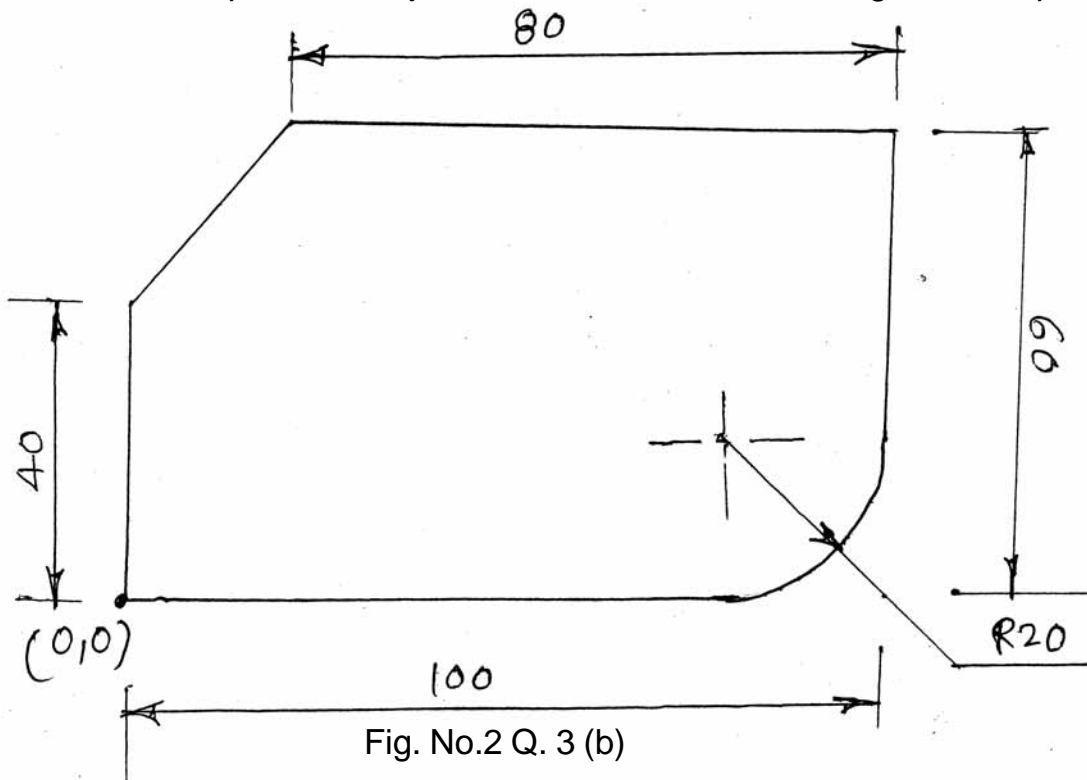

Fig. No.2 Q. 3 (b)
- b) Prepare a part programme for component as show in Fig. No. 2. The end mill cutter available is 10 mm diameter. The depth of part is 4 mm. Use feed rate as 120 mm/min. spindle speed is 800 r.p.m. Use cutter radius compensation. Take $z = 0$ at top surface of job. Assume suitable machining data if required.